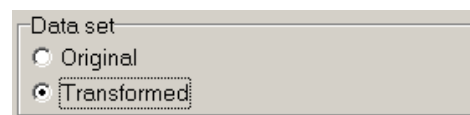

Figure 2.11
12. Point to **Transformed** in the Data set group, Fig. 2.11.